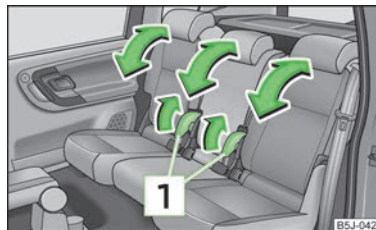

Fig. 39
- Pull the lever [1] » Fig. 39 and adjust the required inclination of the seat backrest.
- Pull the lever **1** » Fig. 39 on page 49 and fold the seat backrest completely forwards.